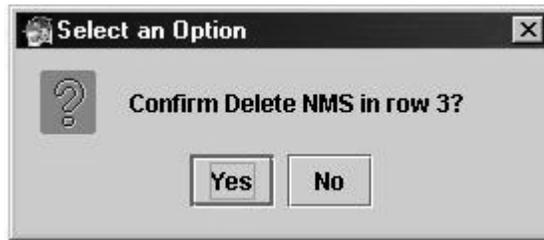

Figure 5-20: Confirm Delete NMS Dialog
2. Click **DELETE**. The Select an Option dialog displays. See Figure 5-20.